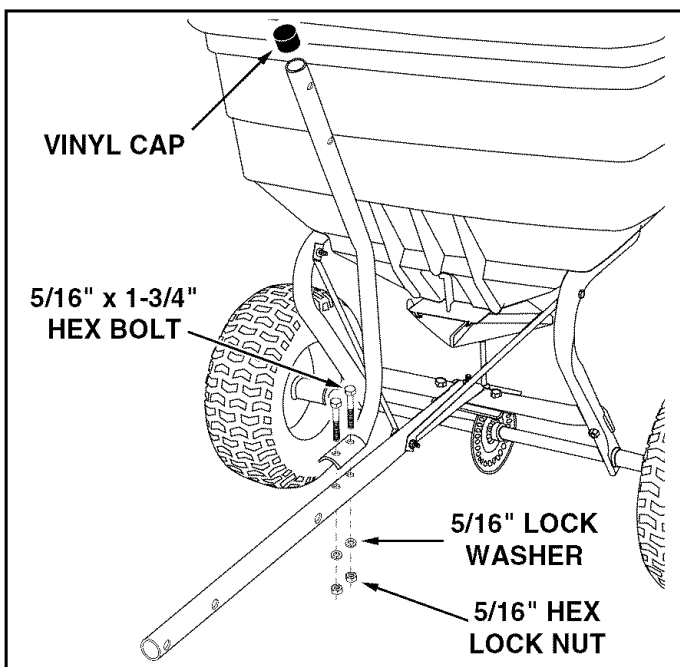

FIGURE 5
- Assemble the flow control mounting tube to the hitch tube using two 5/16" x 1-3/4" hex bolts, 5/16" lock washers and 5/16" hex lock nuts. **DO NOT TIGHTEN YET**. See figure 5.
- Assemble the vinyl cap onto the flow control mounting tube. See figure 5.